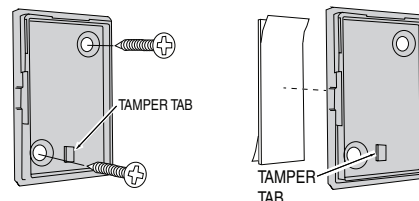

Figure 5. Mounting Methods for Sensor Base
2. Drill holes and install screws OR remove backing from double-stick tape and install Base in place. Snap the sensor cover on to the base making sure that the Tamper Tab on the base aligns with the Tamper button as shown in Figure 5.
5. Replace the Sensor/Cover onto the Sensor Base being sure that the tamper button is aligned with the tamper tab as shown in Figure 5.